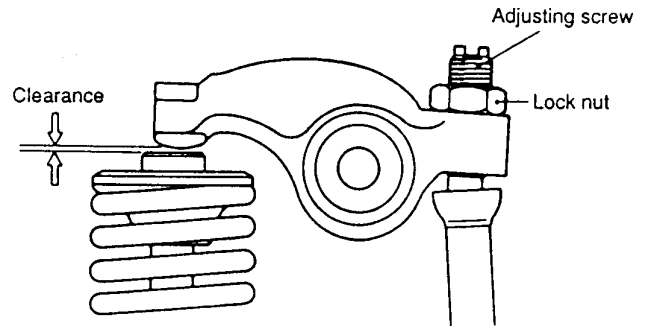

Figure 3-6. Valve Clearance Adjustment
3. Using a feeler gauge, check rocker arm to valve clearance (Figure 3-6). Clearance shall be 0.0039 to 0.0059 inch (0.10 to 0.15 mm). Drag on feeler gauge when passing through gap shall be minimal.